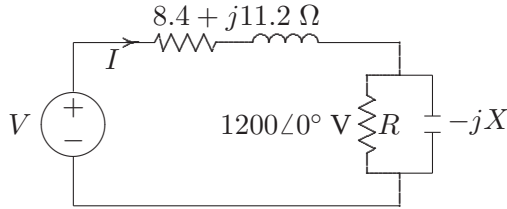

FIGURE 7
2.6. The load shown in Figure 7 consists of a resistance R in parallel with a capacitor of reactance X . The load is fed from a single-phase supply through a line of impedance $8.4 + j11.2 \Omega$. The rms voltage at the load terminal is $1200\angle 0^\circ \text{ V rms}$, and the load is taking 30 kVA at 0.8 power factor leading.